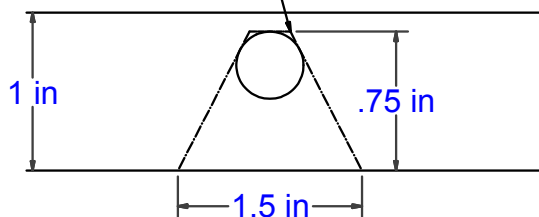

FIGURE 1
- 2) Remove the rear most exhaust bracket and replace it with the exhaust bracket supplied in the bolt kit. When installing the provided bracket, use the lower most hole. This will drop the exhaust and provide clearance for the cross arm installation on the Mega Cab, and the clearance needed to insert the 5/8" x 7 3/4" bolt through the bottom of the frame. Next, install the two cross arms by sliding them through the wheel well, above the tire on the passenger side of the truck, between the truck frame and truck bed. Slide through until the cross arms are sitting on the truck frames. The gap between the bed and frame is large enough to allow this, but is partially obstructed by an approximate 1" of sheet metal flange that is hanging down from the bed. Notch the flange on the passenger side of the truck. Locate the 7/16" hole in the flange above the axle and remove the metal below the hole. (As shown in **Figure 1**) This notch allows for the rear cross arm installation.